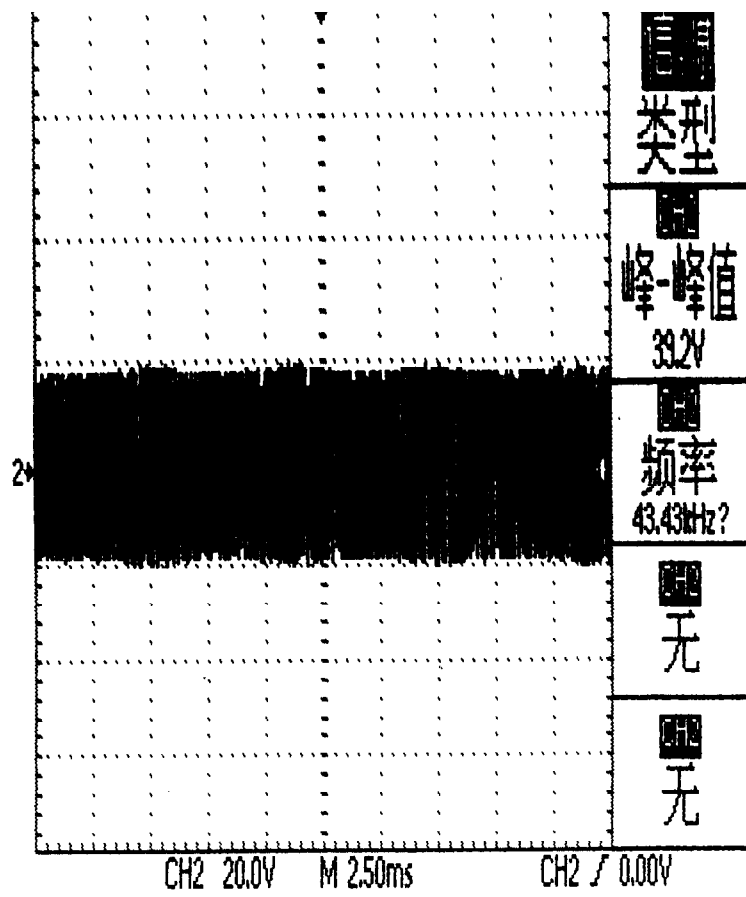

Figure 3
- iv Adjust R23 until a SINE wave curve appears with a read out of 20~50 Vp-p (figure 3):-